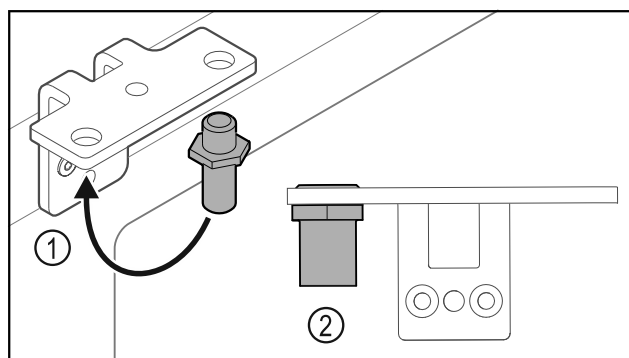

Fig. 13
► Put the pin back into the hinge Fig. 13 (1).
► Tighten the pin Fig. 13 (2) to a **torque of 12 Nm**.